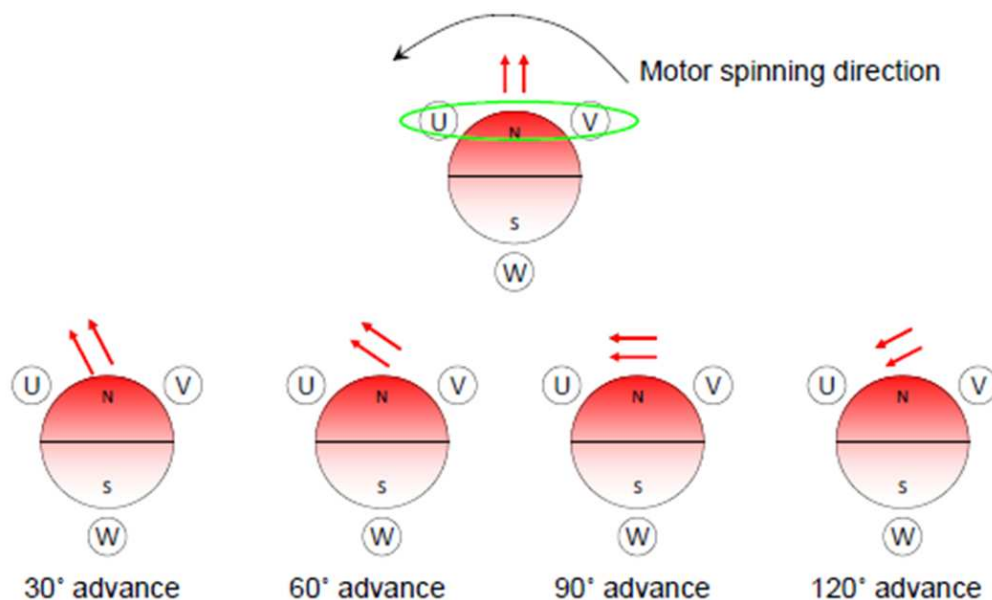

Figure 17. IPD Advance Angle
Step 10. Selection of IPD advance angle After the initial position is detected, the DRV10983x/75 begins driving the motor at an angle specified by IPDAdvAgl[1:0]. Advancing the drive angle anywhere from 0° to 180° results in positive torque. IPD advance angle of 90° results in maximum initial torque. Applying maximum initial torque could result in uneven acceleration to the rotor. Select IPDAdvAgl[1:0] to allow for smooth acceleration in the application (see Figure 17).